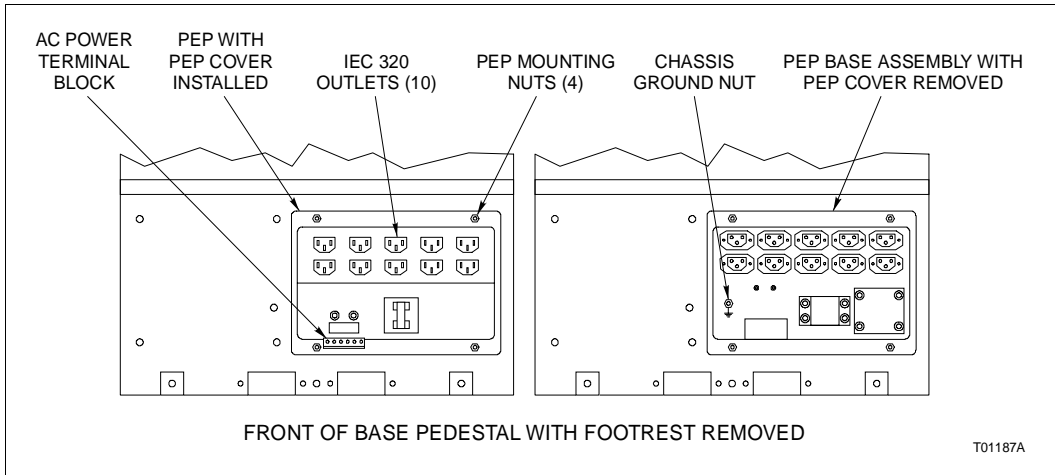

Figure PR9-1. PEP Removal
- 2. Remove the AC power terminal block (Fig. PR9-1). There is no need to remove the wires from the terminal block.
- 6. Use the M5 nut driver to remove the chassis ground nut (Fig. PR9-1), leaving the spacer in place.